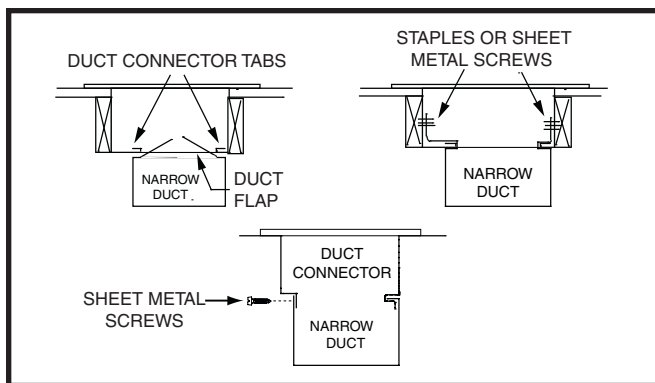

Figure 10. Narrow Ducts
4. Bend the tabs on the bottom of the duct connector upwards and as tight as possible against the supply air duct. See Figure 10 \(page 9\).